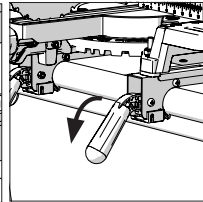

Fig. 11
- Lock the brackets into place by gently depressing the locking levers. **(Fig. 11)**
- When the mitre saw is correctly positioned on the stand, securely tighten the four (4) mounting bolts.